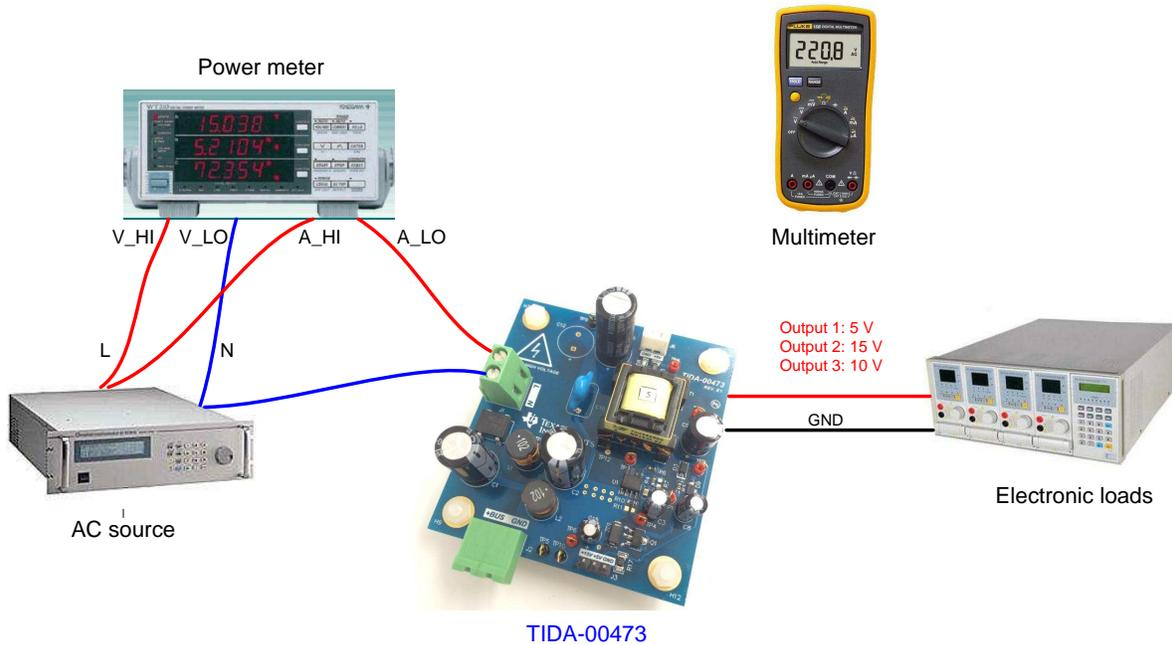

Figure 5. Test Environment Setup Recommended
Figure 5 shows the basic test setup recommended for evaluating the TIDA-00473 during no load and full load. During the no load test, set the power analyzer for long averaging to include several cycles of operation and an appropriate current scale factor should be used.
- Isolated AC source: The input source must be an isolated variable AC source capable of supplying between 50-V and 270- V_{RMS} at no less than 25 W and connected as shown in Figure 5. For accurate efficiency calculations, insert a power meter between the AC source and the TIDA-00473. For highest accuracy, connect the voltage terminals of the power meter directly across the power source. (Connecting the voltage terminals directly to the TIDA-00473 will result in a small current error which is significant when measuring no load power.)
1. Set up the TIDA-00473 evaluated board as shown in Figure 5.
- (b) For operation with a load, as shown in Figure 5, set the electronic load to constant resistance mode. Adjust the resistance setting in the electronic load for changing the load.
- (a) Use the test setup shown in Figure 5.